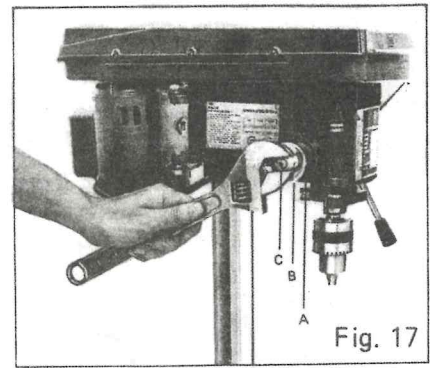

Fig. 17
2. Place screwdriver in lower front notch (A) of spring cap (B) and hold it in place while loosening and removing nuts.
3. Carefully turn screwdriver counter clockwise and engage next notch. Fig. 17.
4. Tighten inner nut (C) with wrench. Do not overtighten as this will restrict quill movement.